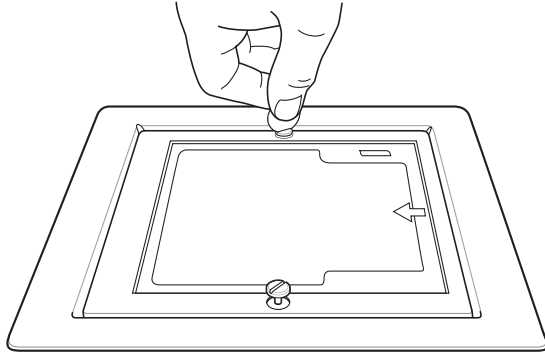

Figure 3-1 . Unscrewing the Front Panel
1. Insert a coin into the large screw heads on the front of the scanner and turn counter-clockwise (*Figure 3-1*).